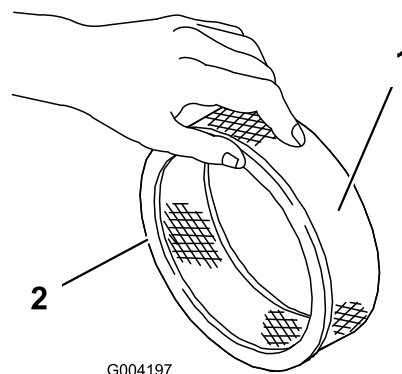

Figure 157
5. Inspect the paper filter for tears, an oily film, and damage to the rubber seal (Figure 157).